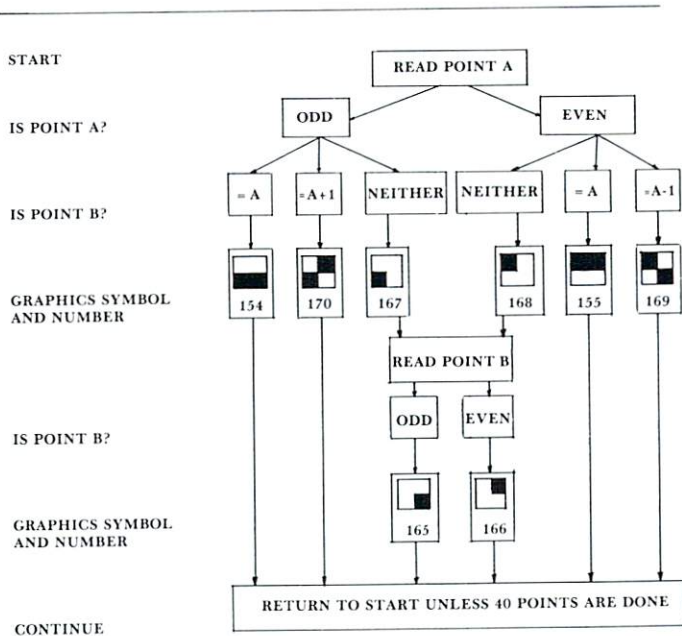

Fig. 2. Decision tree for selecting correct graphics symbols.
The program is designed first to scale the input data array, DA(I), between 0 and 40 (lines 5260 - 5332) and put the results into array DY(I). Datasets with a difference between maximum and minimum values of more than 40 are condensed and smaller ones expanded on the graph. Both positive and negative values now will be plotted above the X-axis. Actual high (YH) and low (YL) values are saved and printed by line 5900 to give an idea of absolute as well as relative magnitudes. Next, 40 locations on the video display are computed for the scaled points. This must be done two points at a time because several symbols can be used to represent the pair, depending on whether they are equal, different by ± 1 , or neither. Lines 5340 - 5780 code for the selection of the correct symbols. Figure 2 shows a decision tree that depicts how the choice is made. Since the first point of the pair automatically has an odd X-value (1,3,5,...39) and the second an even value (2,4,6,...40), only Y-values need be evaluated as odd or even. Based on the following table of possible X,Y coordinates, the correct quadrants are chosen for each square: